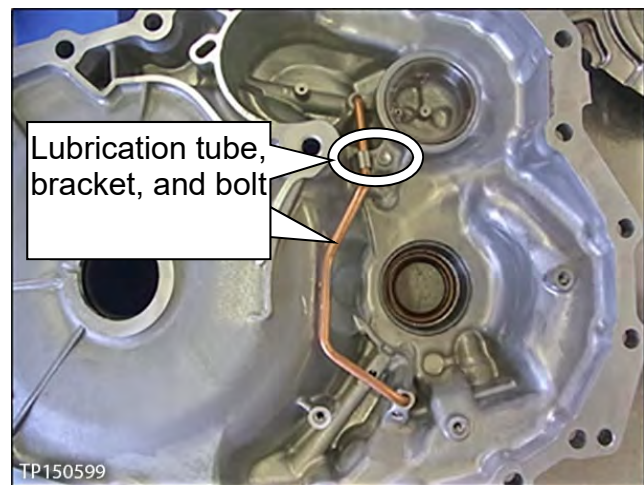

Figure 135
b. Remove the bolt and then remove the lubrication tube and its bracket (Figure 135).